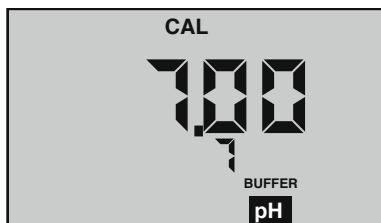

Figure 6
4. Press  to enter calibration mode. The “**CAL**”, “**BUFFER**” and “**7**” annunciators will appear (see Figure 6, page 19). Displayed value will be the uncalibrated sensor.